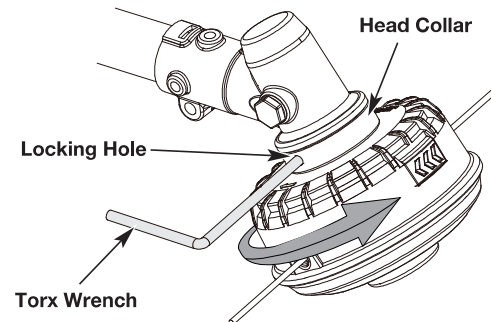

Fig. 20
1. Rotate the head collar until the outer visible locking hole aligns with the inner locking hole beneath the head collar. (Fig. 20)